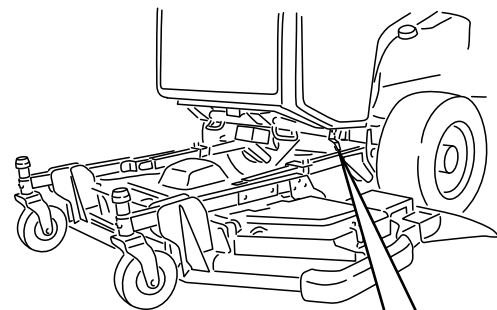

Figure 7
- A. Loosen the fasteners securing the switch bracket to the frame (Figure 7).